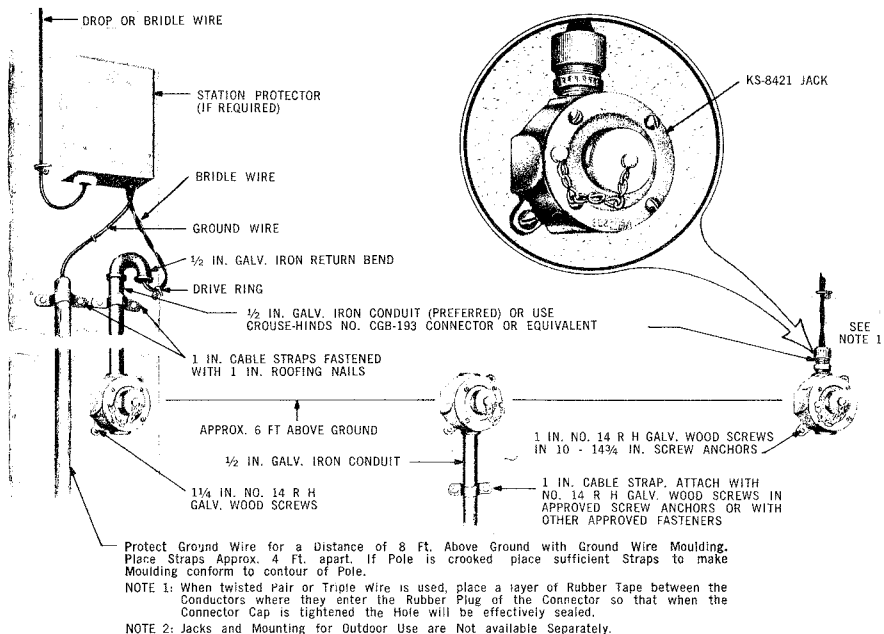

Fig. 18 — Typical Installation of KS-8421 Jack
6.06 Install the KS-8421 jack (Fig. 18) as follows:
1. Mount jack as shown in Fig. 18. Connect wire to jack.